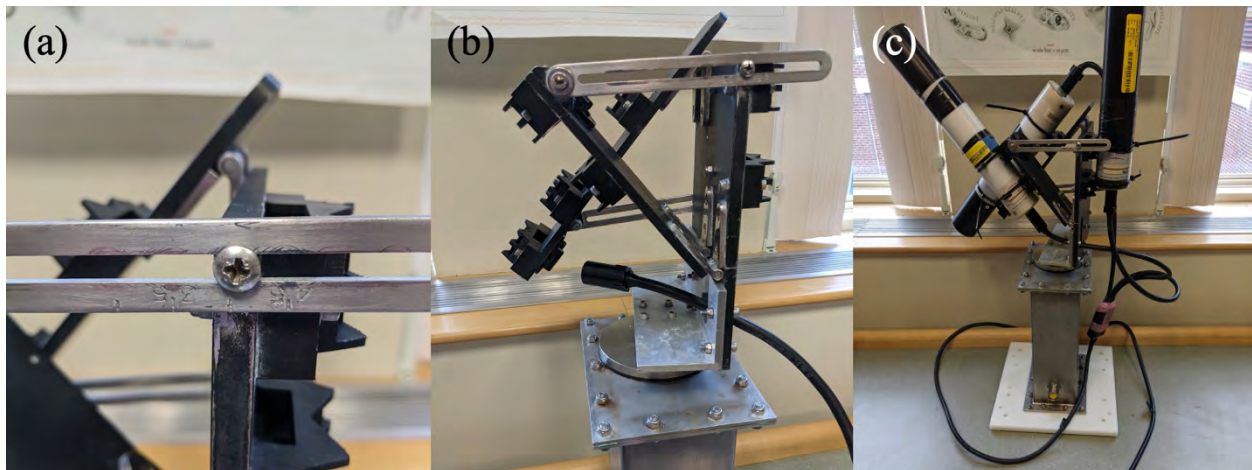

Figure 2. Mounting radiometers on the tower.
2. Set the radiometers' mounting bracket such that the HyperOCR sensors point at 40° from horizontal (Figure 2.a).
3. Feed the three heads of the HyperSAS cable through the mounting bracket (Figure 2**Error! Reference source not found.**b), then connect the labeled cords to the respective HyperOCR sensors and THS head. If labels were to be missing, the master sensor - typically the THS - should be plugged to the middle cable while the slave sensors - typically the HyperOCRs - should be plugged to either side cable (please refer to Sea-Bird's Scientific manual to find the SatNet master and slave sensors). It's easier to attach the cables prior to mounting the HyperOCR/THS on the mounting bracket.
4. Fasten the HyperOCRs and THS with zip ties (Figure 2.c). It is recommended to leave the excess zip-tie to discourage seabirds from landing on the system.